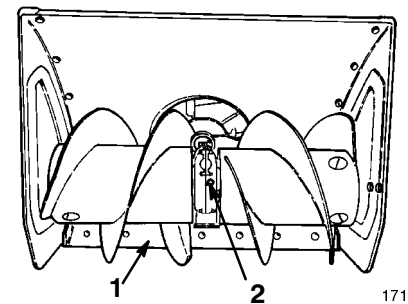

Figure 16
2. Move the snowthrower onto a flat surface and make sure that the scraper (Fig. 16) is parallel to the ground. If it is not, adjust the scraper; refer to *Adjusting the Skids and the Scraper* on page 28.
3. Remove the pipe plug from the gear box (Fig. 16).